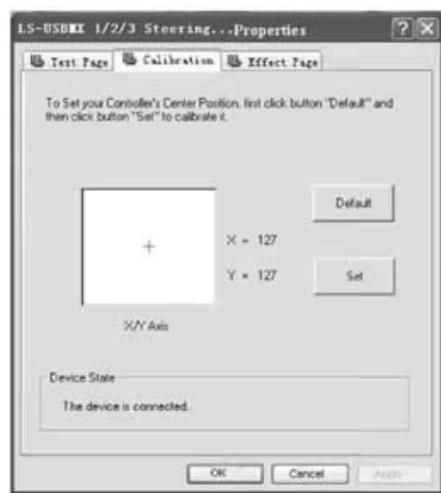

Fig. 8
- **Wheel calibration.** This option is only used for calibrating wheel centering fault under analog mode (the indicator LED turns red): when the cross cursor is not centered in the X/Y Axis as seen in the interface, please press “Default” and then press “Set” (Fig. 8).
- Program buttons 1, 2, 3, 4, 5, 6, 7 and 8, which by default assigned functions to gear stick ⑨, left wing and right wing ④, gas pedal ②, brake pedal ②, buttons 11 and 12. Which, you define by testing. If for some reason they need to be reprogrammed, to set other functions, do the following guidelines:
- *Program Setup (no programming function under NEGCON Mode)*. Enter “Test Page” (see Fig. 8), press button 9 and button 10 ⑭ at the same time. Hold for 3 seconds until program LED turns green. Press the programmable button. Program LED starts blinking. Press program source button. Program LED turns off. Program is set.
- Wheel sensitivity can be adjusted by a toggle switch Sensitivity ⑯. There are 3 optional sensitivities: «LO», «MID», «HI».
- By using switch Sensitivity ⑯ can be set three levels of sensitivity steering in position “LO” for the full twist “wheels” to turn the steering wheel to lock, i.e., all 135 degrees. In the position “MID” enough to turn the rudder to 2/3 speed, and in position “HI” maximum position is reached at the third steering.